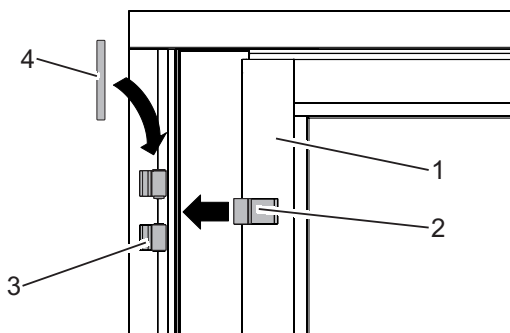
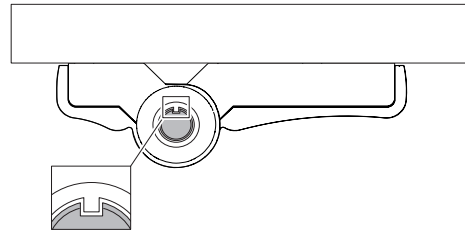

Fig. 17: Inserting the single action door into the door hinges
Fig. 18: Inserting door hinge pin
3. Insert the single action door (Fig. 17/1) with the hinges (Fig. 17/2) into the door hinges (Fig. 17/3).
4. Insert the door hinge pins (Fig. 17/4). Groove and lug must interlock (Fig. 18). If necessary, slightly turn the door hinge pin.